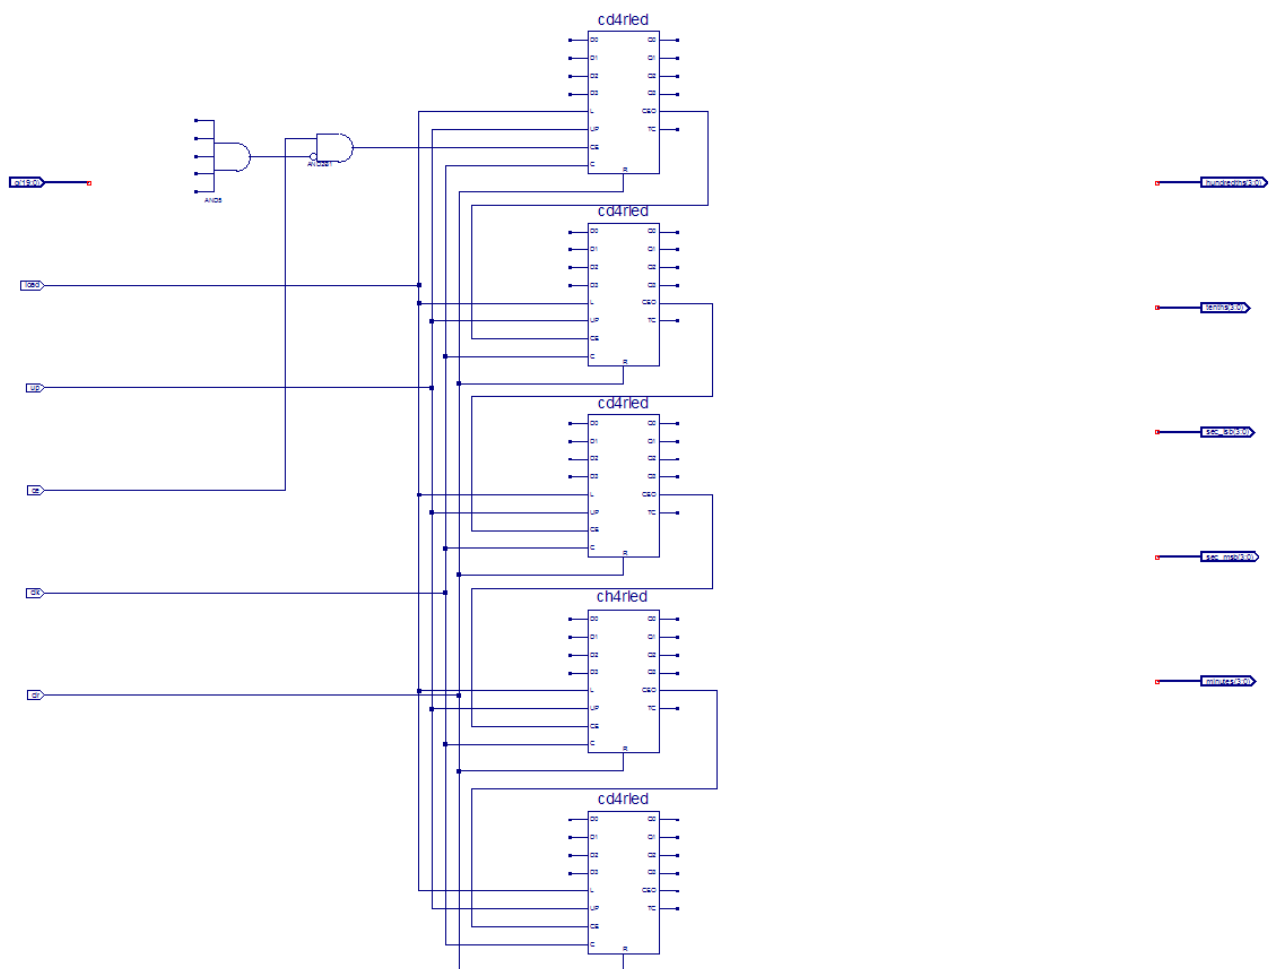

Figure 4-8: Partially Completed time_cnt Schematic
Refer to Figure 4-8 for placement locations.
4. Connect the **load**, **up**, **clk**, and **clr** input I/O markers respectively to the **L**, **UP**, **C**, and **R** pins of each of the five counter blocks and connect the **CEO** pin of the first four counters to the **CE** pin of the next counter as shown in Figure 4-8.